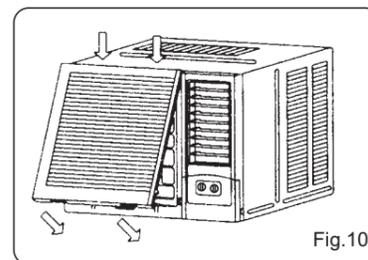

Fig.10
2. Hang the front panel on the frame's buckle, then press the front panel into the frame's slot until hear a click. (see Fig.10)